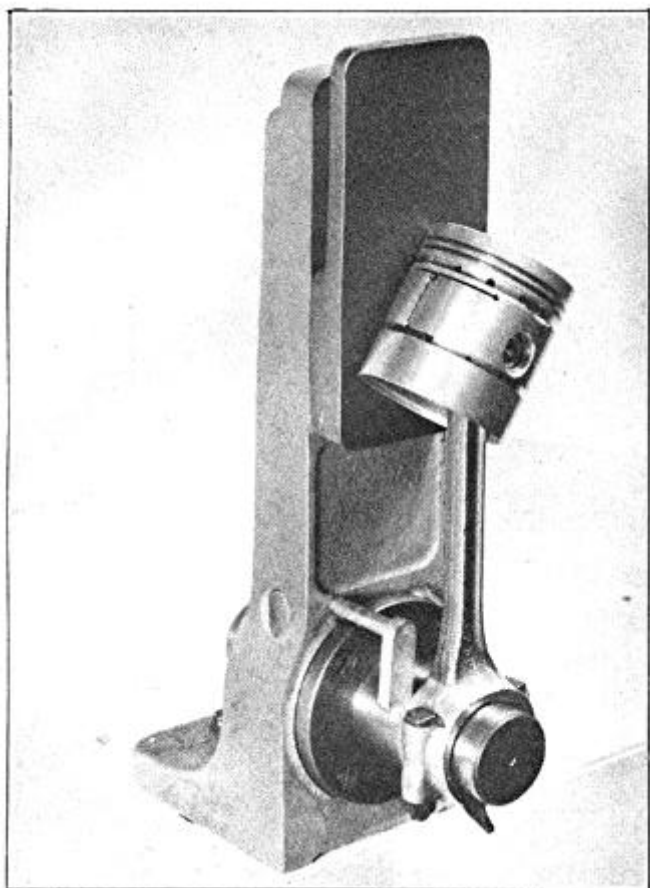

FIGURE 30
1. Mount the connecting rod and piston assembly on the alignment fixture and set the piston in line with the connecting rod, Figure 30.